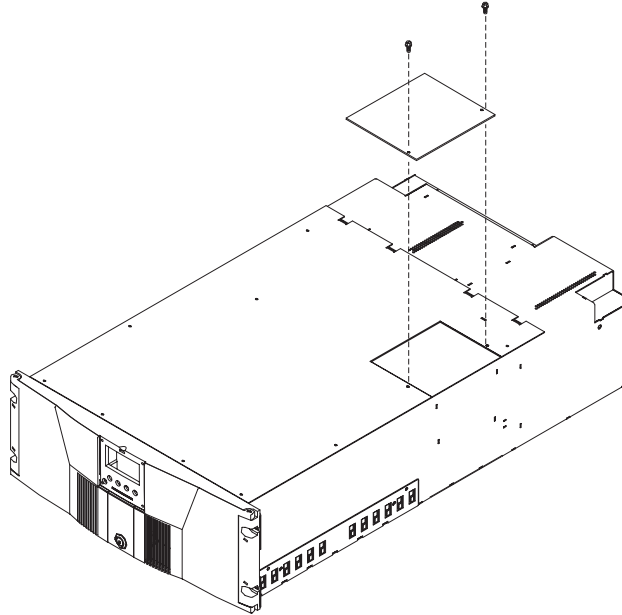

Figure 14. Pass-through cover plate
1. Remove the pass-through cover plates. See Figure 14 to determine which pass-through plates you must remove.